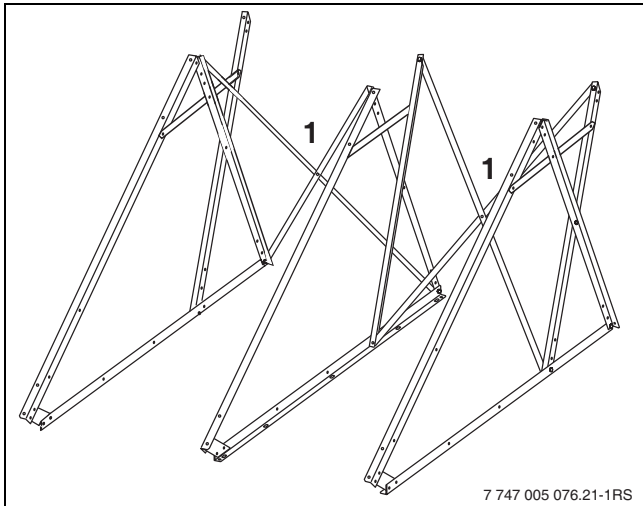

Fig. 14 Fitting the wind braces
- ▶ Make 2 crosses from 4 wind braces (Fig. 14, [1]).